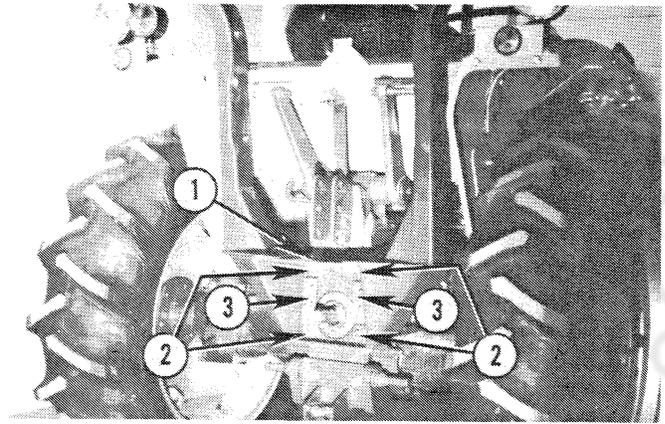

FIG. 101
4. Install ROPS at this time (refer to Figs. 101 to 103). Install rear fenders. Fenders are attached to step plates and rear panel with bolts, flat washers, lock washers and nuts. Fenders are attached to center trim panels with bolts and captive lock and flat washers. Fenders are attached to rear axle housing with check chain brackets.
FIG. 101: Install ROPS to Tractor prior to installation of three-point linkage. Rear PTO shield is installed following installation of ROPS. Using floor crane or hoist, install safety frame from the rear positioning frame bracket, 1, on rear of Tractor center housing.